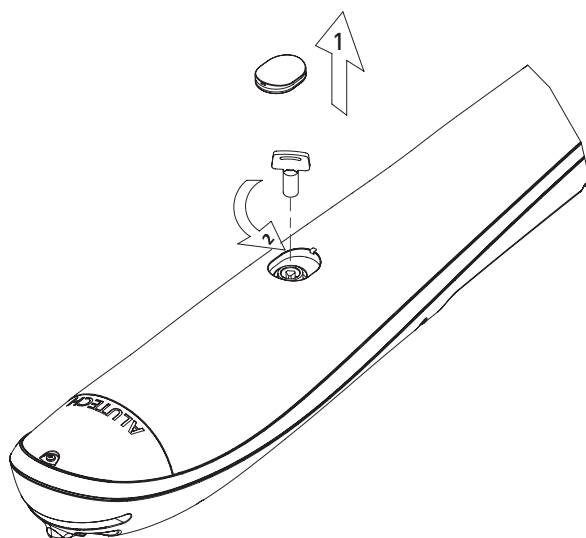

Figure 15. Manual release
To release the drive (fig. 15), use the special key supplied with the drive kit. Turn the key to ~180° towards the **OPEN** label. To return the drive to the locked (engaged) state, turn the key towards the **CLOSE** label. Once you have locked it, move the leaf manually, slowly, without shocks or impacts until you hear a distinctive engagement click.
- Release the drive as shown in *fig. 15*.